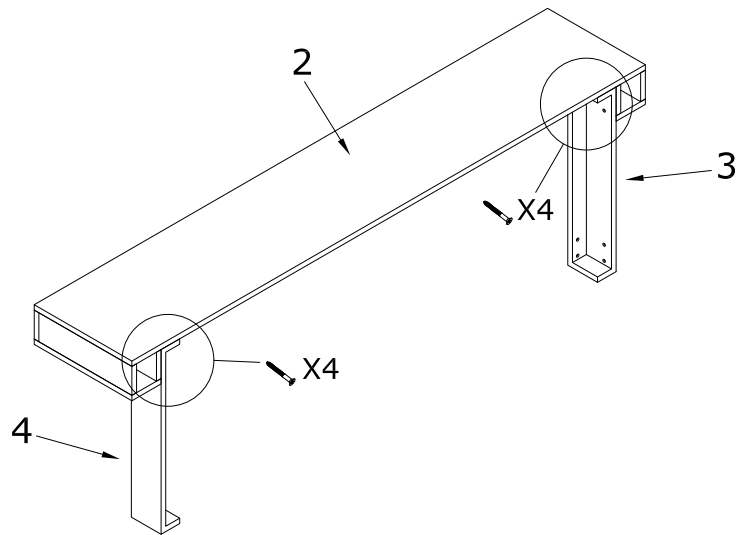

Figure 3.11 - Attach the Side Sections to the Top Section
4. Install the bottom section of the floating mantel kit as shown in Figure 3.11. This bottom piece slides on top of the brackets attached in step 2. Push this bottom section of the floating mantel until it rests against the wall. Ensure the topside of this section slides underneath the bottom finishing edge of the fireplace. Be careful during this step to not chip the bottom section of the mantel kit when it slides under the bottom finishing edge of the fireplace.